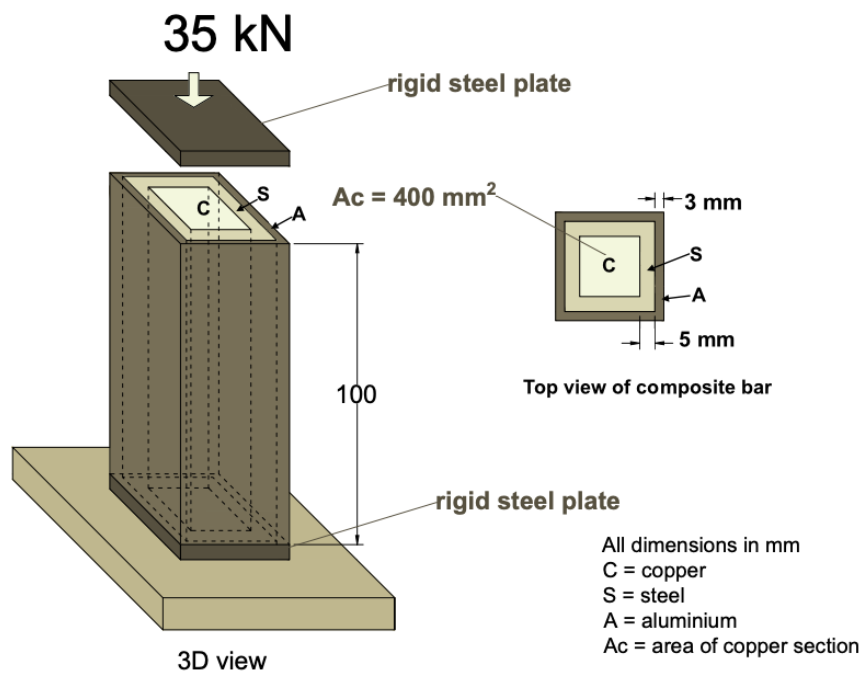

Figure 3
2. **Figure 3** shows a square composite bar consists of three different materials. A solid square copper bar is surrounded by steel and aluminium layers with a thickness of 5 mm and 3 mm, respectively. A compression load 35 kN is applied to the composite bar via a rigid steel plate. Young's Modulus of the copper, steel and aluminium are 90 GPa, 200 GPa and 80 GPa, respectively. Given the cross-sectional area of square copper bar is 400 mm^2 , determine: